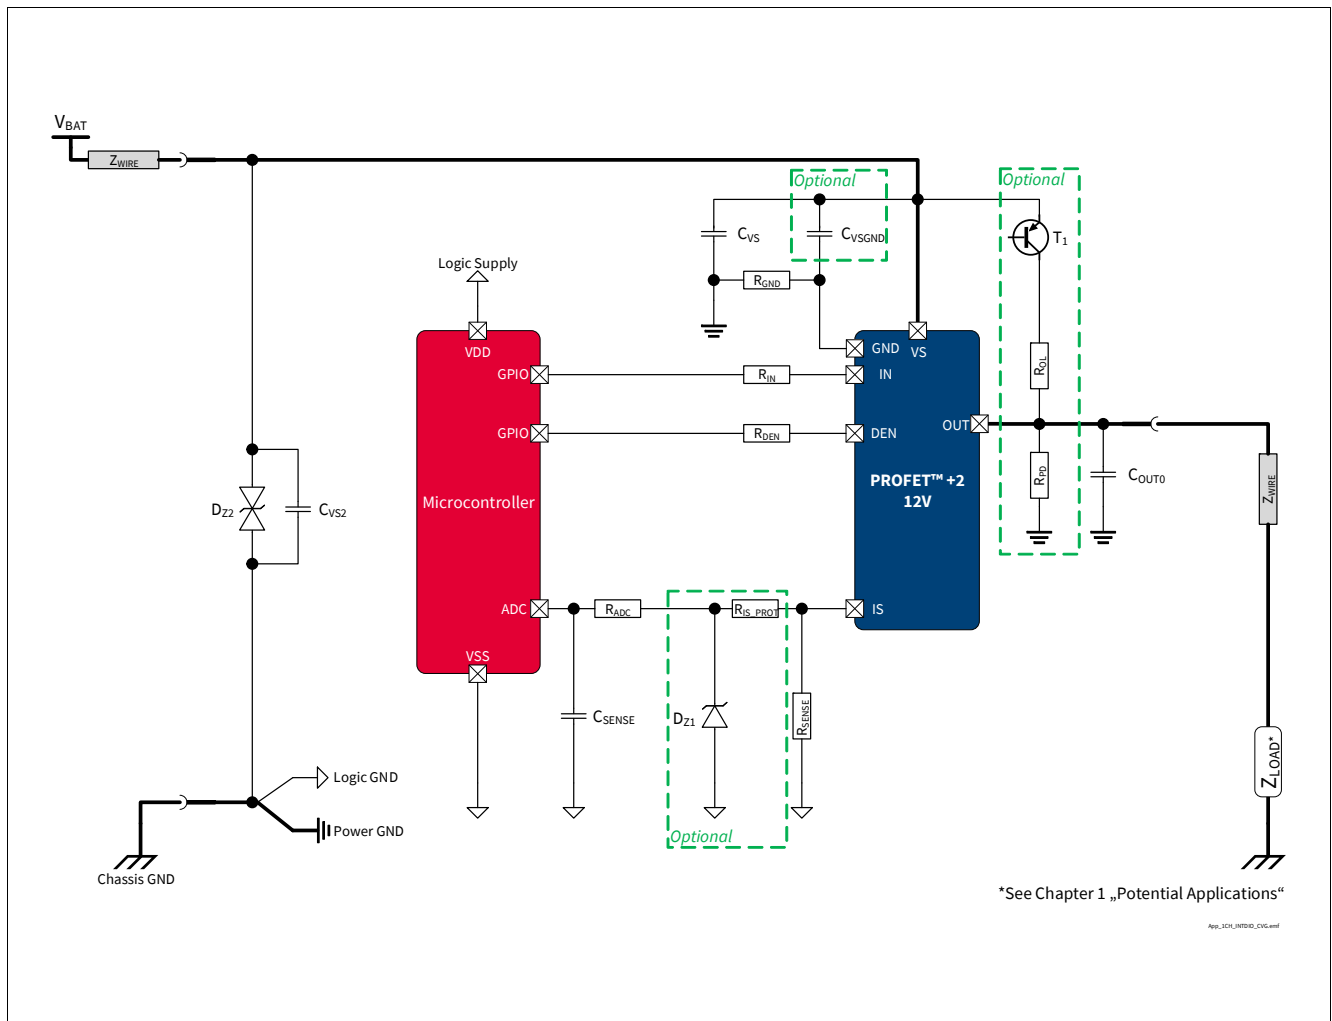

Figure 42 BTS7040-1EPA Application Diagram
1.02, 2019-10-15	<p>P_8.7.6.1, P_8.7.6.7, P_8.7.6.8 updated (added in Note or Test Condition: link to Figure 25)</p> <p>P_8.7.6.6 updated (added in Note or Test Condition: link to Figure 26)</p> <p>P_7.5.6.4, P_7.5.6.5 updated (added in Note or Test Condition: DEN = “low”; link to Figure 19)</p> <p>P_7.5.6.12 updated (added in Note or Test Condition: see Figure 21; deleted unnecessary space in Symbol: $dV_{OUT} / dt \rightarrow dV_{OUT} / dt$)</p> <p>P_9.7.6.1 updated (added in Note or Test Condition: See Figure 34)</p> <p>P_9.7.6.6 updated (Min./Typ./Max.: -40%/1800/+40% → -26.0%/1750/+26.0%)</p> <p>P_9.7.6.8 updated (Min./Typ./Max.: -35%/1800/+35% → -23.5%/1750/+23.5%)</p> <p>P_9.7.6.9 updated (Min./Typ./Max.: -30%/1800/+30% → -20.5%/1750/+20.5%)</p> <p>P_9.7.6.12 updated (Min./Typ./Max.: -26%/1800/+26% → -19.0%/1750/+19.0%)</p> <p>P_9.7.6.15 updated (Min./Typ./Max.: -11%/1800/+11% → -9.7%/1805/+9.7%)</p> <p>P_9.7.6.17 updated (Min./Typ./Max.: -6%/1800/+6% → -6.0%/1805/+6.0%)</p> <p>P_9.7.6.19 updated (Min./Typ./Max.: -5%/1800/+5% → -4.5%/1805/+4.5%)</p> <p>P_7.5.6.11 updated (added in Note or Test Condition: see Figure 19)</p> <p>P_4.2.6.6 updated (Max.: 7.5 mJ → 9 mJ)</p> <p>Figure 1, Figure 42 updated</p> <p>Chapter 1 updated (or LED equivalent → or equivalent electronic loads (e.g. LED modules))</p> <p>P_4.3.0.7 added</p> <p>Table 23 updated</p> <p>Chapter 5.1 updated (added: see Chapter 10 for the complete application setup overview)</p>